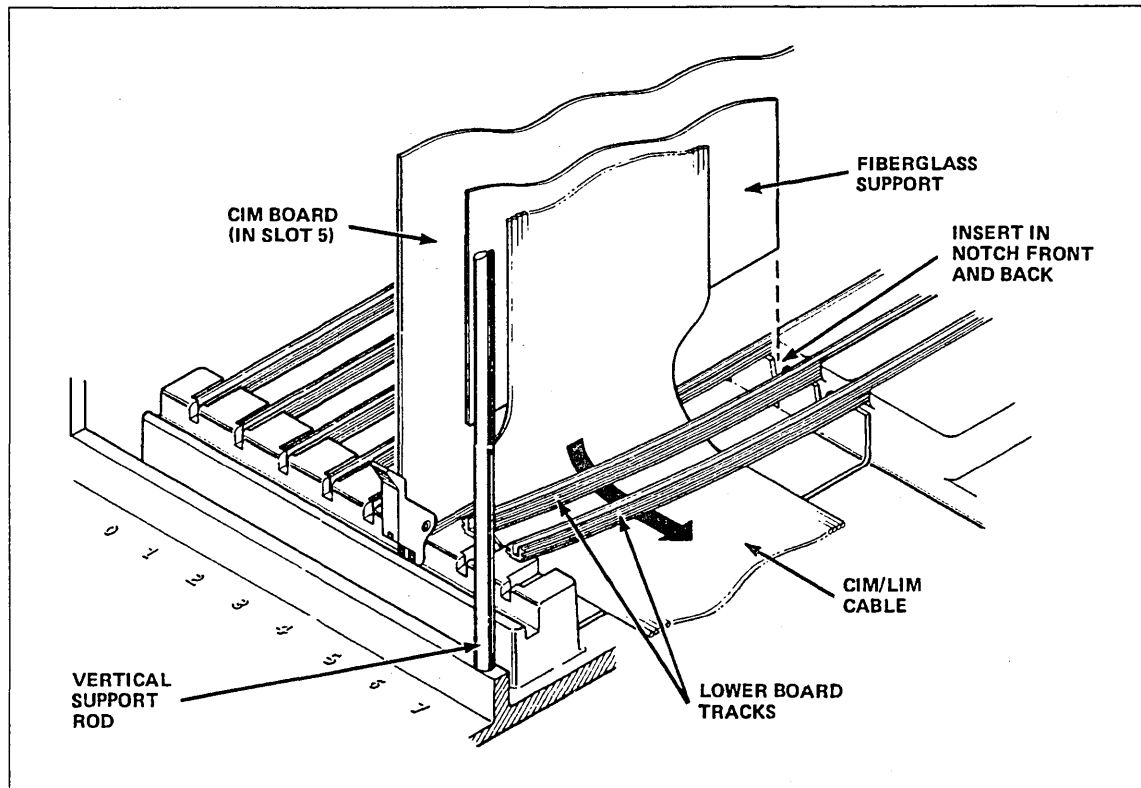

Figure 1-42. CIM/LIM Cable Routing
2. Lift up the lower board tracks to the right of the CIM and slide the cable under the tracks (see figure 1-42). For example, if the CIM is installed in slot 5, route the cable under tracks 6 and 7.